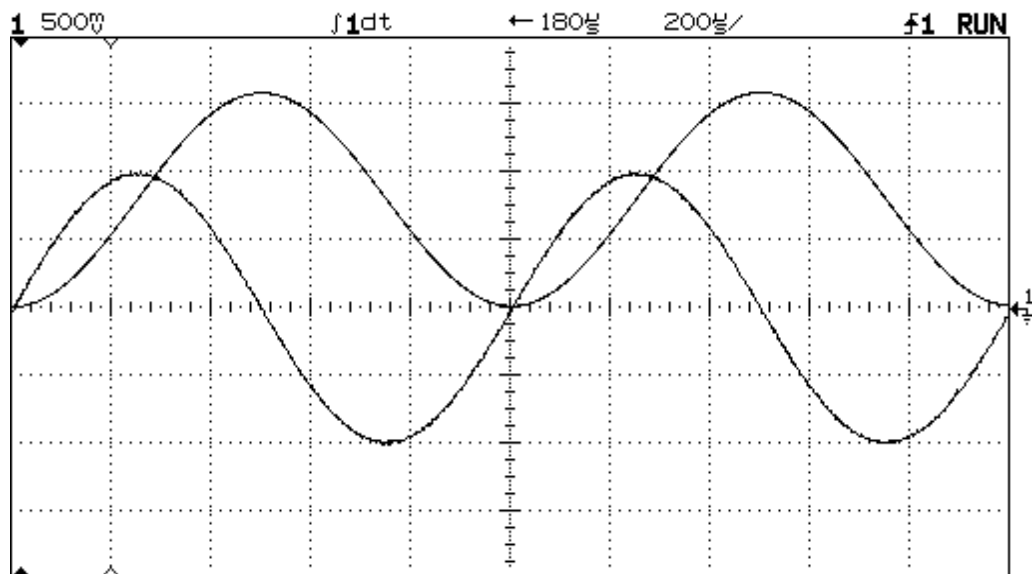

FIG 1: Integral of a sine wave.
- You should see a waveform similar to FIG 1.
Note from FIG 1 that the integral function is doing just what we expected. It is integrating the area under the sine wave curve. (Zero volts on the sine wave is indicated by the ground sign at the right edge of the screen.) [Note: If the integral waveform tends to ramp upward or downward, you may have a small offset on the function generator. This can be corrected one of two ways: Either set the scope coupling to AC [SLOPE/COUPLING; COUPLING AC], or with the scope in DC coupling, go to the function generator and set the offset so that the average value of the sine wave, V_{avg} , as measured with the automatic measurement function of the scope is close to zero. To do an automatic V_{avg} measurement, just touch Measure VOLTAGE, softkey V_{avg} .]